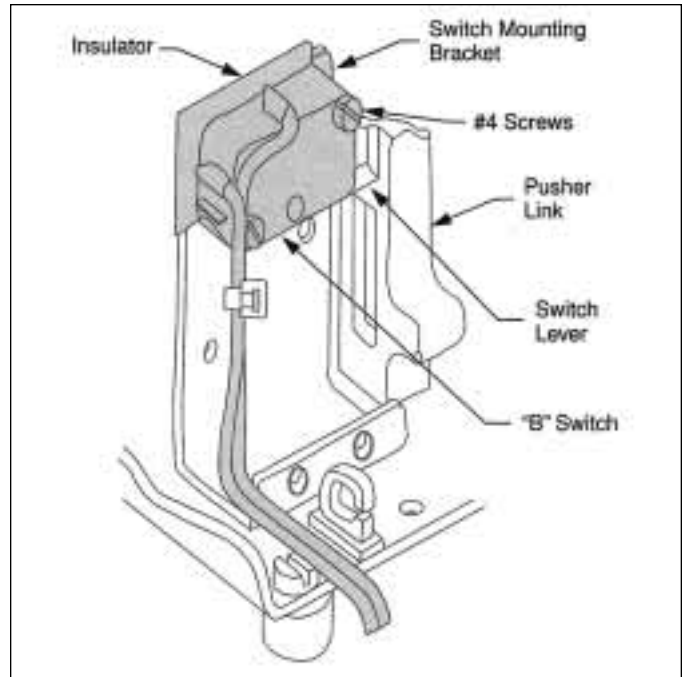

Figure 2. Mounting the Clearing ("B") Switch
- 21. Replace the trip unit by pushing it onto the trip unit plug. Slide the trip unit over the support bracket pins. Secure the trip unit by replacing the mounting screw. Torque screw to 12-14 in-lbs (See Figures 2 and 3, Page 2).
5. To mount the clearing ("B") switch, first make sure that the switch lever is inside the bottom cavity of the pusher link (Figure 2).